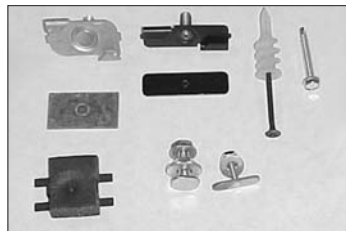

Figure 1A
- Many ceiling grids accept standard Caddy Clips such as $\frac{9}{16}$ " and $\frac{15}{16}$ " (Figure 1). When the grid is recessed, spring spacers and closed cell foam must be used. Use Caddy Clip spacers to prevent scratching the grid (Figure 1A). Donn $\frac{9}{16}$ " fine line uses a $\frac{1}{4}$ "-20 T-bolt. Drywall and hidden grid ceilings require direct attachment of the rail with screws or anchors.